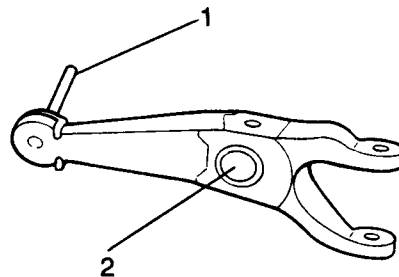

Fig H1.21
- (4) Refer to Fig H1.21. Separate the push rod (1) from the clutch lever by releasing the plastic clip.
- (5) Remove the supporting bush (2) from the pivot.